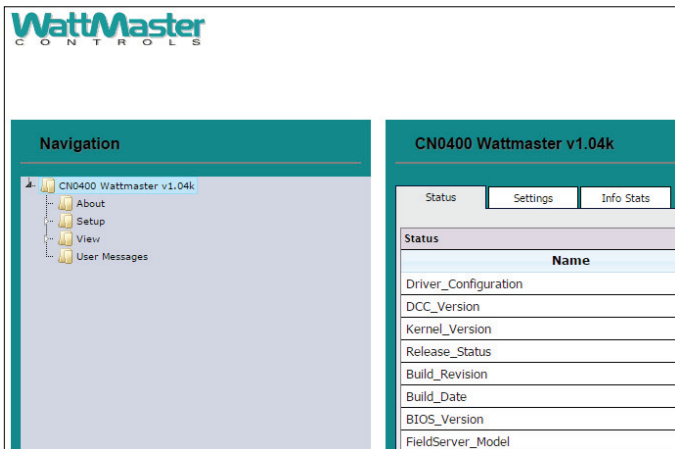

Figure 13: The FS-GUI Main Screen
3. *Open* your web browser, and *type* the IP Address of the PT-Link, which defaults to **<192.168.1.24>**, and *press* **<ENTER>**. The GUI will launch. *Click* **<Diagnostic and Debugging>**. The *Main Screen* will appear. See **Figure 13**.